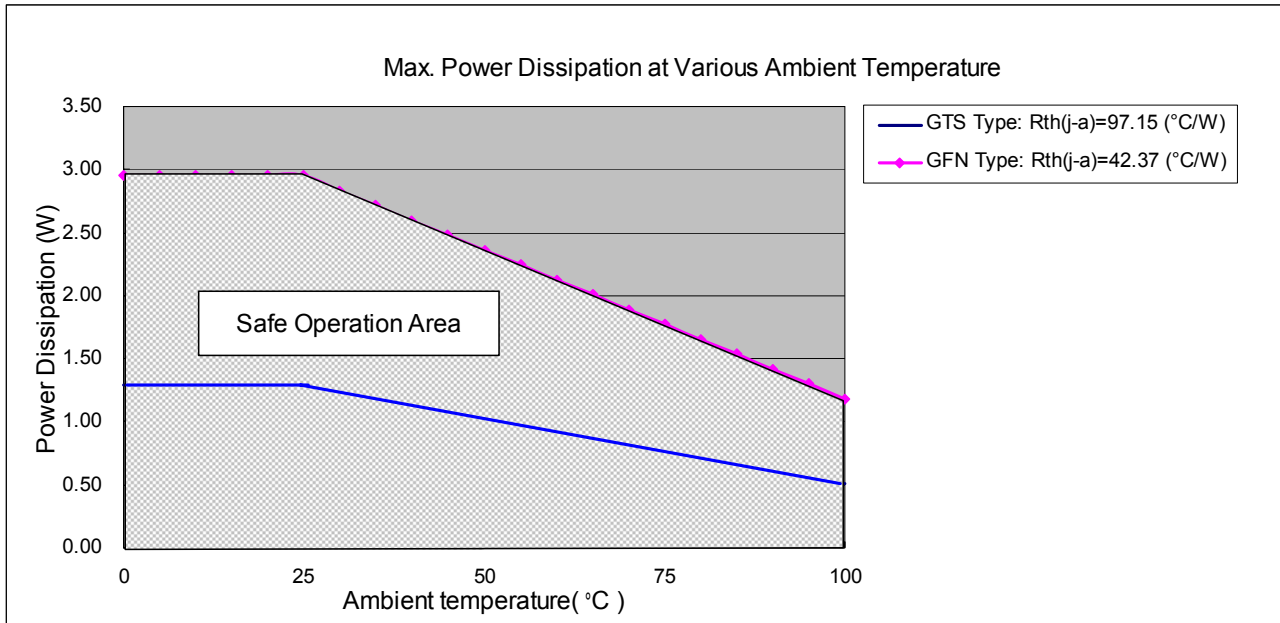

Figure 9
*Users must notice that the power dissipation (almost equaling to $I_{OUT} \times V_{DS}$) should be within the Safe Operation Area shown in Figure 9.